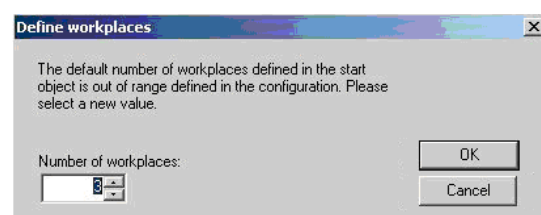

Figure 136: Dialog for Specifying the Number of Workplaces
- As soon as this attribute is set, the prompt for the number of workplaces no longer appears when the level 3 work load balancing starts (Figure 136) and the work load balancing is started with the previous value.